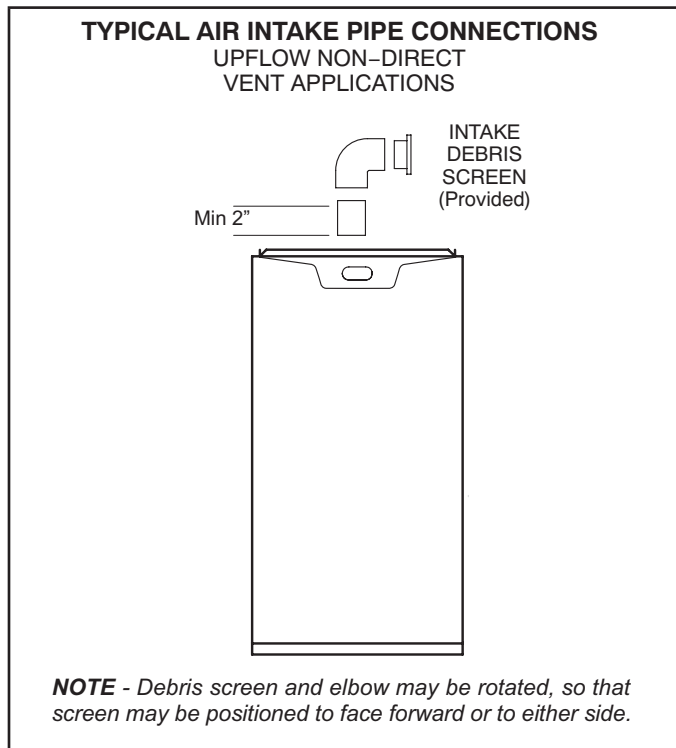
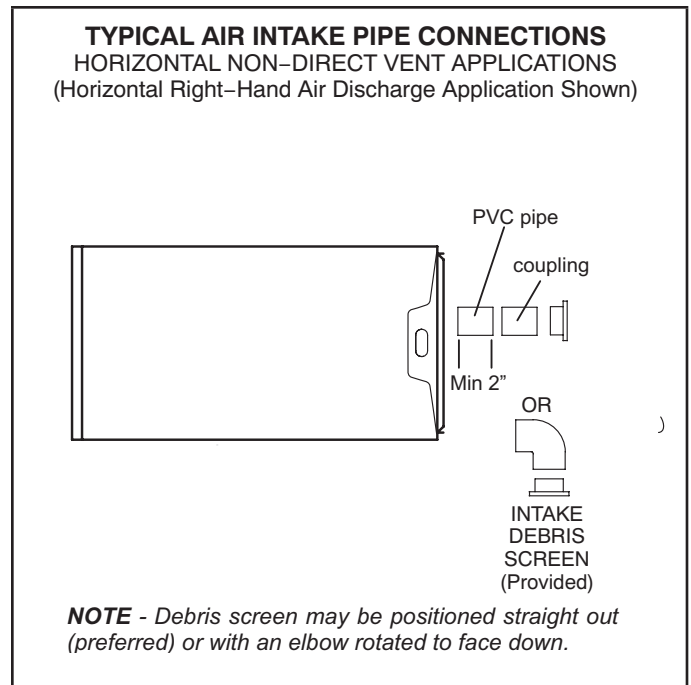

FIGURE 24
FIGURE 25
- 1 - Use field-provided materials and the factory-provided air intake screen to route the intake piping as shown in FIGURE 24 and FIGURE 25. Maintain a minimum clearance of 3" (76mm) around the air intake opening. The air intake opening (with the protective screen) should always be directed forward or to either side in the upflow position, and either straight out or downward in the horizontal position.